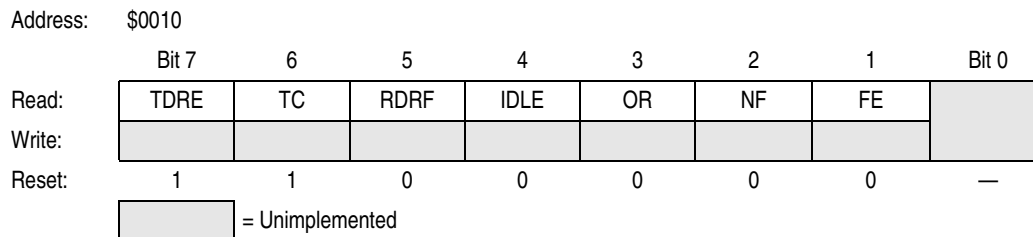

Figure 9-11. SCI Status Register (SCSR)
- The SCI status register (SCSR), shown in Figure 9-11, contains flags to signal these conditions: